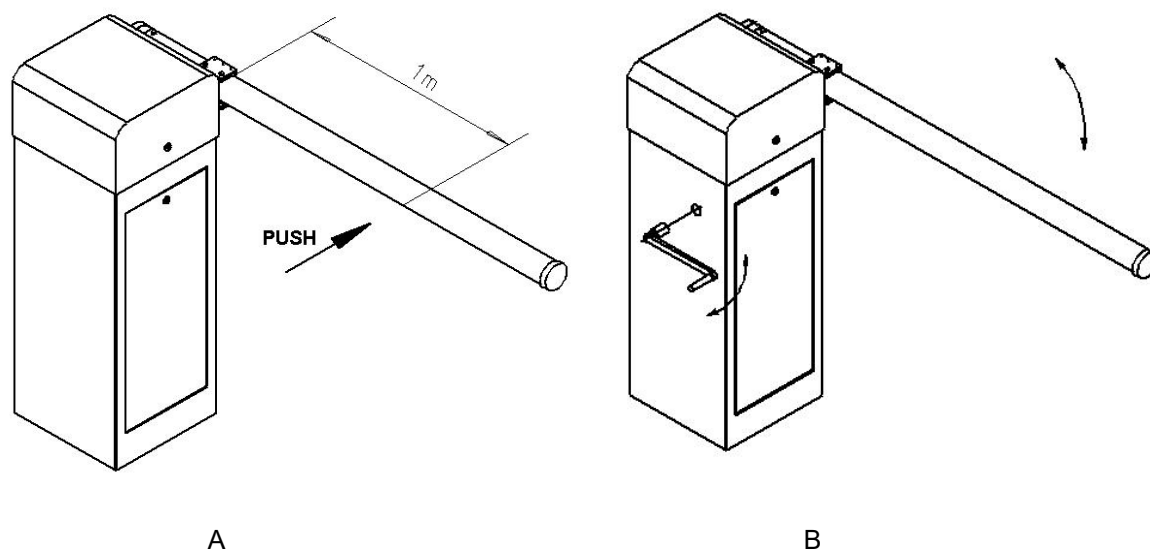

Fig.8
In case of power failure, you can push the bar manually when it is at horizontal position see Fig.8 (A).
Turn the crank handle clockwise or anticlockwise to move the bar manually. See Fig.8 (B)